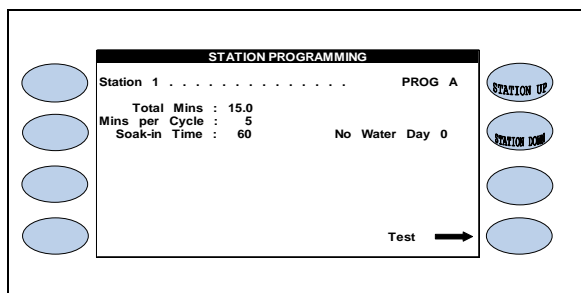

Figure 3.2
The STATION PROGRAMMING screen is displayed (Figure 3.2).
5. When at the Station Programming screen, the two (2) top right Menu keys are used for **STATION UP** and **STATION DOWN**. The following explains each setting on the STATION PROGRAMMING screen.
- **STATION:** Indicates the current station number (Station 1 is the example in figure 3.2).
- **PROG:** Indicates the program that the current station is assigned to (Program A is the example in figure 3.2).
In the example shown in figure 3.2, station 1 will irrigate for 5.0 minutes (the Mins per Cycle setting) then wait 60 minutes (the Soak-in Time setting), it will repeat the process two (2) more times until the total irrigation applied is 15 minutes (the Total Mins setting), this feature is called Cycle and Soak. Each station's Cycle and Soak setting can be set independent of any other station's settings. The following shows some examples of Cycle and Soak settings: